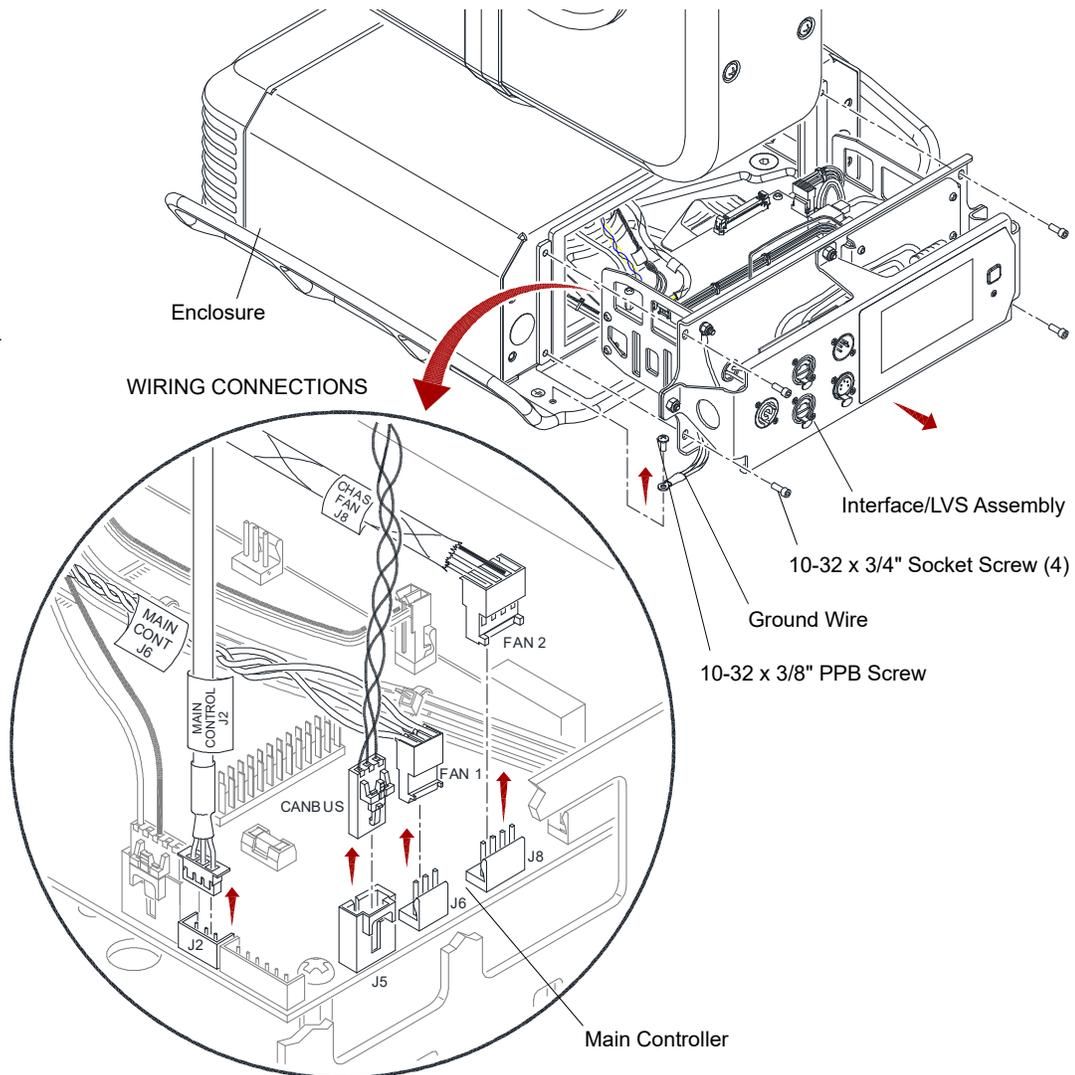

Figure 3-51: Disconnecting Interface/LVS Cables
- Step 3. At front of Interface/LVS Assembly, remove four 10-32 x 3/4" socket head screws (**Figure 3-51**).
- Step 5. At Main Controller PCB, disconnect four cables as shown in **Figure 3-51**.